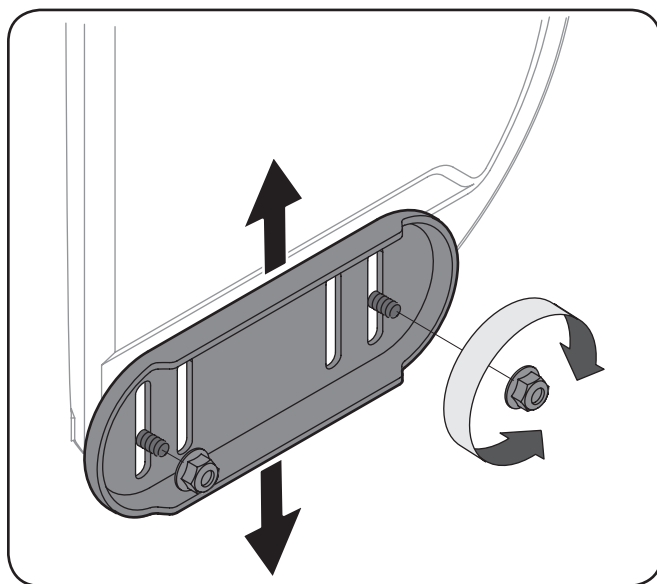

Figure 3-12
1. Loosen the four hex nuts (two on each side) and carriage bolts. Move the skid shoes to the desired position. See Figure 3-12.